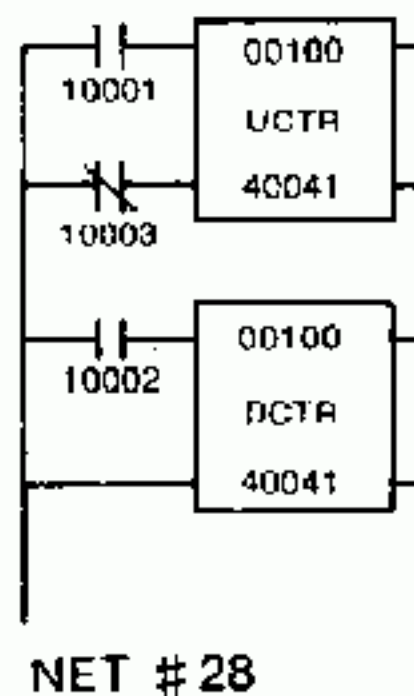

Fig. 4.18 Up/Down Counter
(5) Up/Down Counter
- Fig. 4.18 shows an example of an up/down counter.